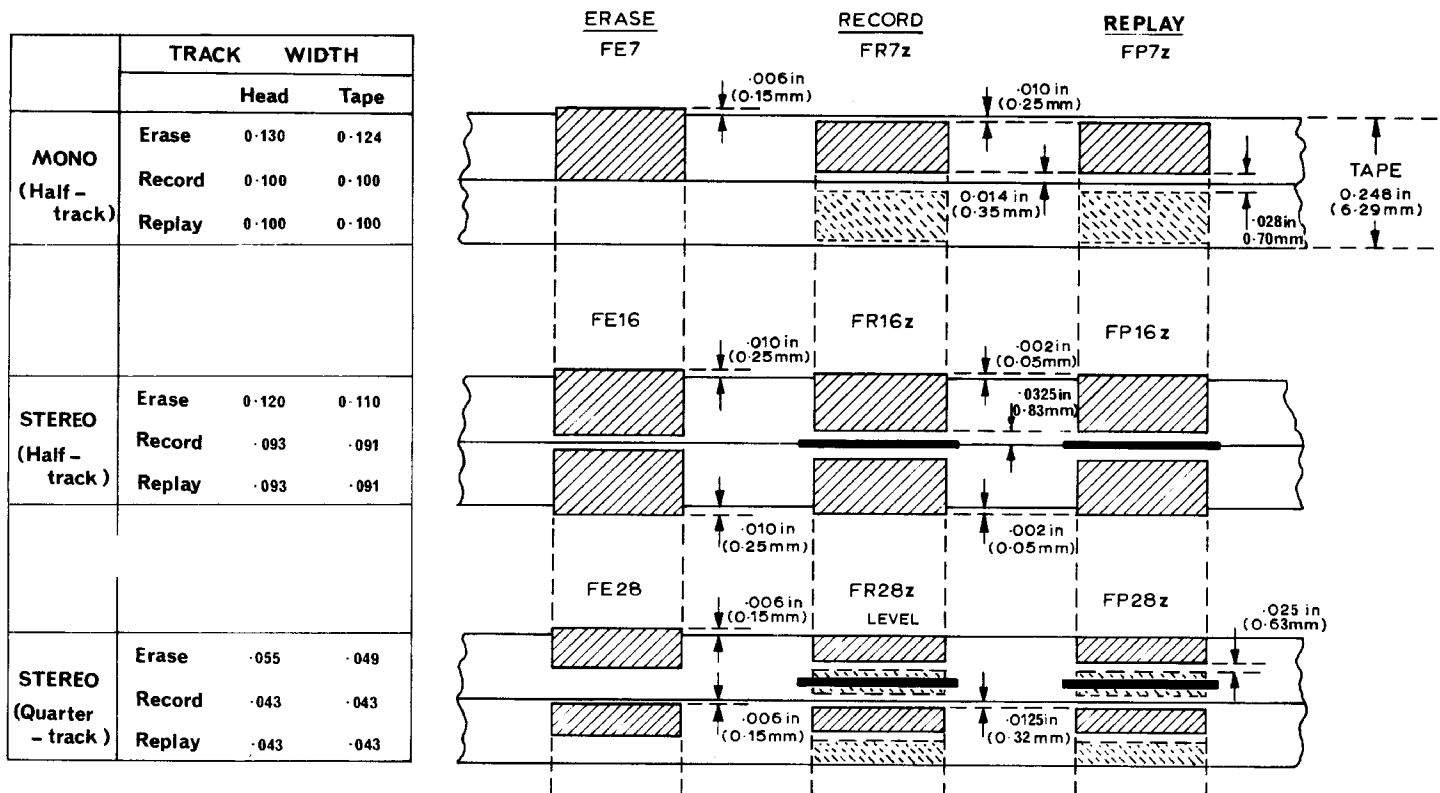

FIG. 12. HEAD ALIGNMENT
- (iv) Inspect visually to make sure that the tape runs over the replay head at the correct height, see Fig. 12.
- (vii) Check the position of the tape (using transparent leader) in relation to the record head, see Fig. 12.